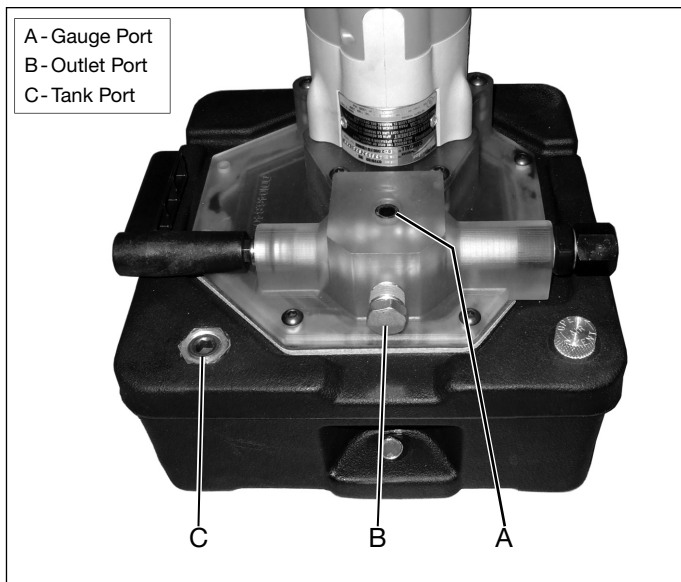

Figure 3, Ports and Connections
The pump is intended for use with single-acting hydraulic cylinders and devices only. Make connections as described in the following steps. Refer to Figure 3 for port locations (A), (B) and (C).
1. Remove the shipping plugs from ports (A) and (B). See Figure 3 for locations.